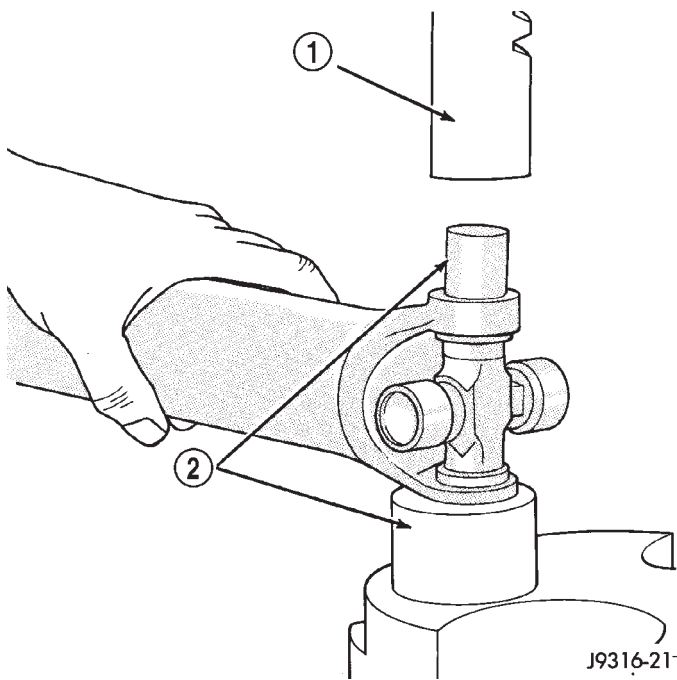

Fig. 19 Press Out Bearing
(4) Set the yoke in an arbor press or vise with a socket whose inside diameter is large enough to receive the bearing cap positioned beneath the yoke.
(5) Position the yoke with the grease fitting, if equipped, pointing up.
(6) Place a socket with an outside diameter smaller than the upper bearing cap on the upper bearing cap and press the cap through the yoke to release the lower bearing cap (Fig. 19).